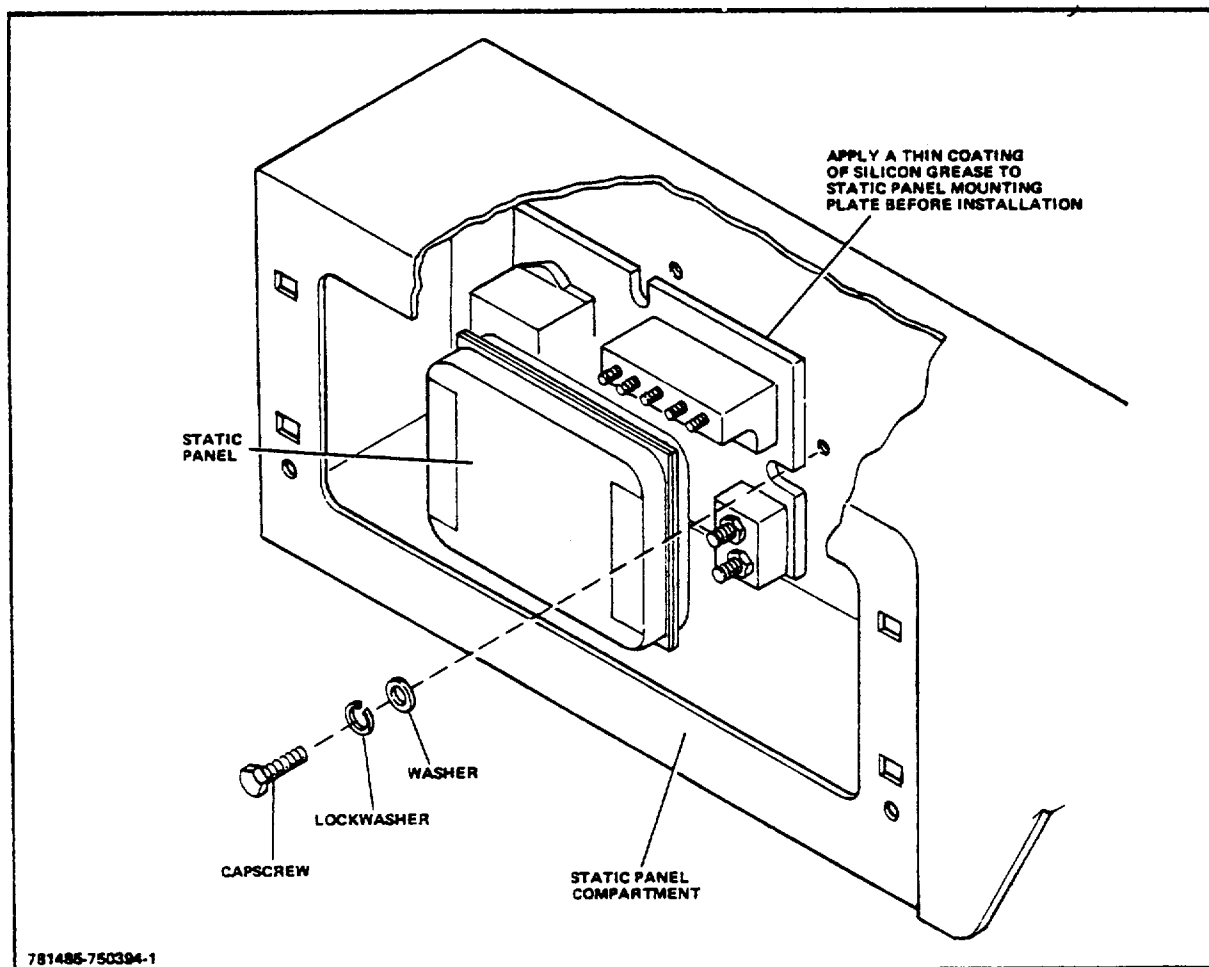

Figure 4-4. Static Panel Mounting
4. Remove the mounting hardware securing the static panel to the truck frame. Remove the static panel from the compartment (Fig 4-4).